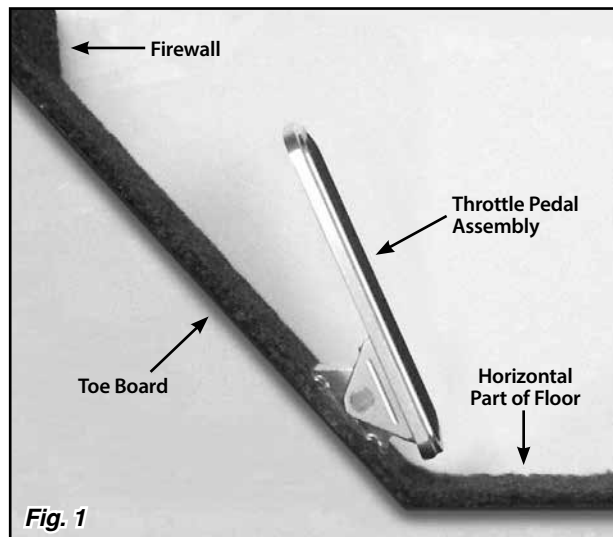

Fig. 1
Step 1: Determine your desired mounting location. This Throttle Pedal is designed to be mounted on the angled toe board just below the vertical firewall, **NOT** on the horizontal part of the floor. **Fig. 1** The bottom edge of the pedal pad should be parallel to the horizontal part of the floor. Make sure that the location of the pedal bracket, Throttle Cable, and cable pull arm will not interfere with any other components such as brake or fuel lines, clutch linkage, wiring, or exhaust. **Fig. 2**